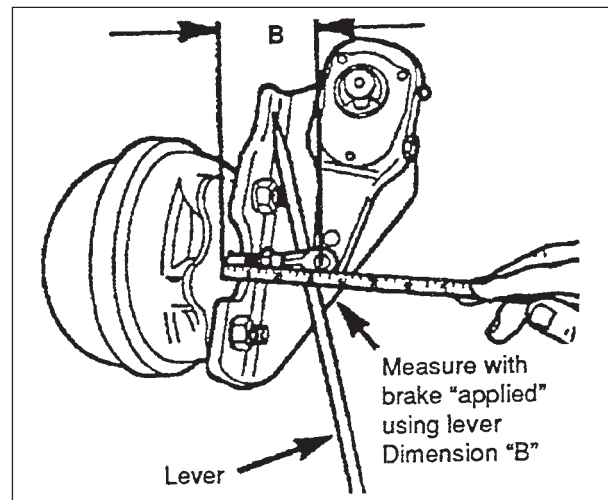

Fig. 8-26 FREE STROKE
2. With a lever, pry the slack adjuster arm until the brake shoes contact the drum and measure the slack adjuster movement (see Fig. 8-26).